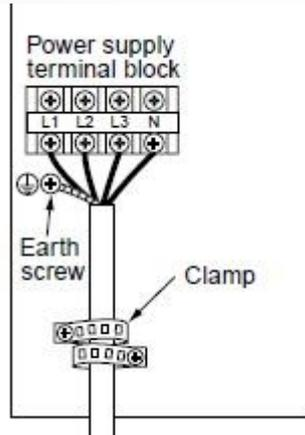

Fig 1
- 1) Confirm that the power supply at each outdoor unit is correct, three phase and neutral 380 – 400 volts 50 Hz AC, SMMS/SMMSi/SMMSe & SHRM/SHRMi/SHRMe (Fig 1).